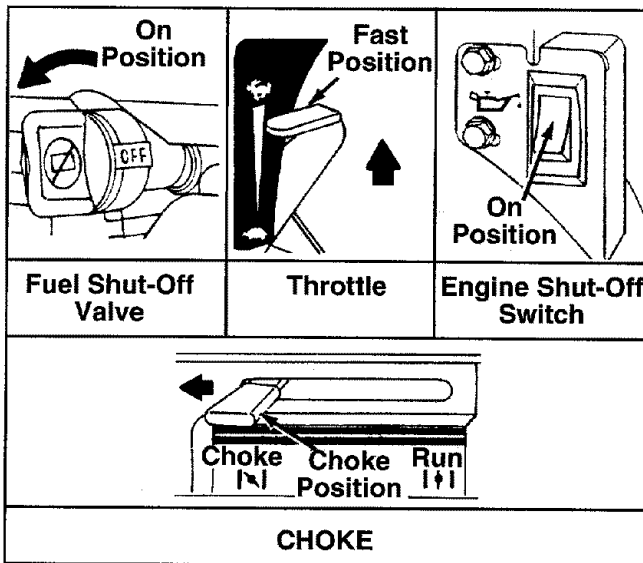

FIGURE 14.
FUEL SHUT-OFF VALVE—Used to stop the flow of fuel into the carburetor. See figure 14.
- Close fuel shut-off valve when equipment is not in use to prevent fuel leakage. See figure 14.
- Open fuel shut-off valve by turning in direction of arrow. See figure 14.
- Place the throttle control lever in FAST position. See figure 14.
- Place the engine shut-off switch in ON position. See figure 14.
NOTE: If engine does not fire after three attempts, move choke lever halfway between CHOKE and RUN position and try again. See figure 14.
- Move engine shut-off switch to OFF position. See figure 14.